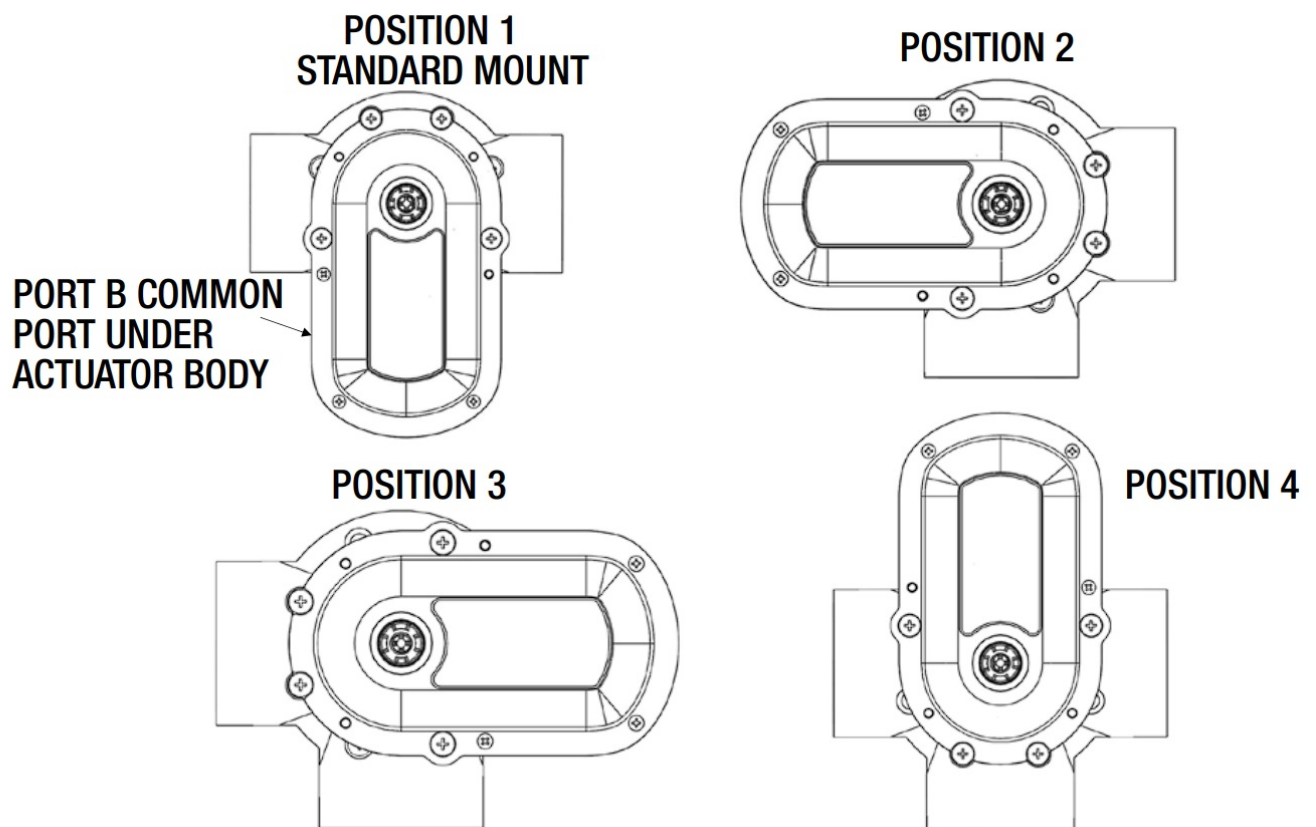

Figure 3.
5. Rotate the actuator until the actuator posts line up with the four holes so it matches one of the mounting positions shown in Figure 3.
Standard Actuator Mounting – The main body of the actuator is over port B as shown in position 1 of Figure 3.
The actuator can also be mounted on top of a valve in four different positions as shown in Figure 3. Depending on the plumbing of the valve and mounting position of the actuator, the cams inside the actuator may have to be reset. (See next section.)
NOTE: Factory settings: If mounted in POSITION 1 (STANDARD MOUNT in FIG 3) the cams will stop the valve blocking PORT A in one direction and PORT C in the other direction. Please be sure to adjust the cams to match your setup.